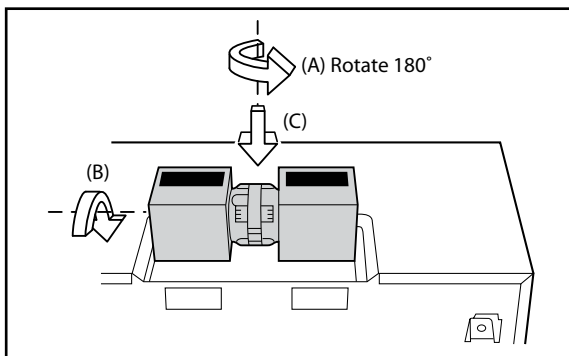

Figure 14
3. Rotate the Hood Fan Unit 180° so that the fan blade openings are facing the back of the oven. Note, you will need to lift the wire over the hood fan unit so the wire will clear. See Figure 14 (A). Then rotate the Hood Fan Unit 90° so that the fan blade openings are facing the top of the oven. See Figure 14 (B). Replace Hood Fan Unit into the oven. Be careful not to pinch the lead wire between the inner bracket and the Hood Fan Unit. Put the lead wire into Wire Box. See Figure 14 (C).